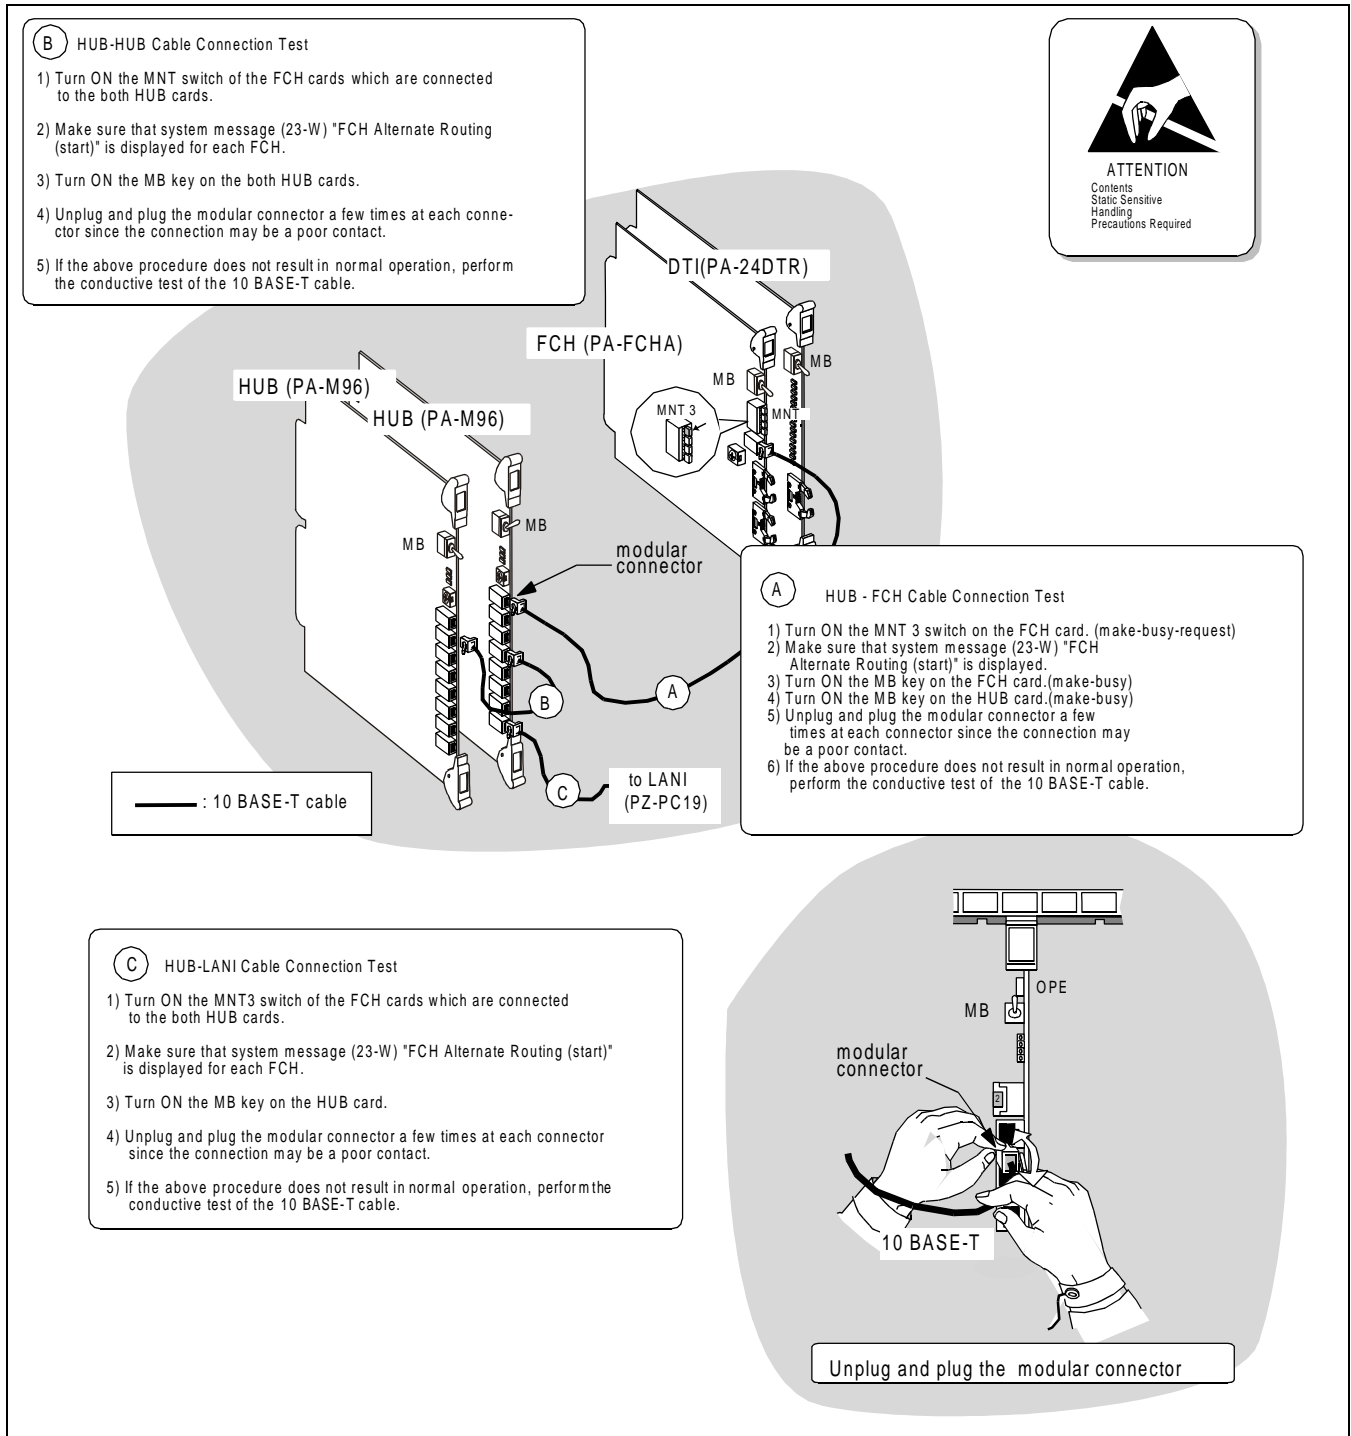

Figure 7-13 How to Check 10 BASE-T Cables
- Ethernet cables (10 BASE-T cables) ← See Figure 7-13 “How to Check 10 BASE-T cables.”